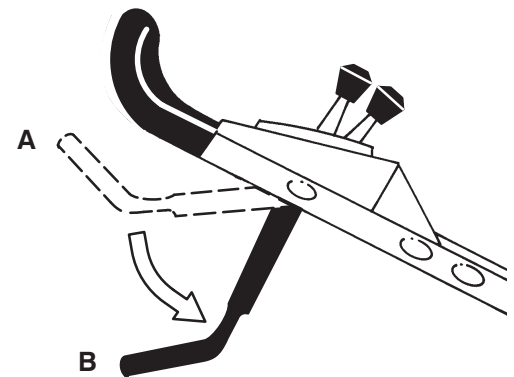

Figure 13
10. Release the control bar (Refer to position B in Fig. 13). You should hear a "bang". The blade should stop in three seconds.
2. Push the control bar down to its lowest position (Refer to position *B* in Fig. 13).